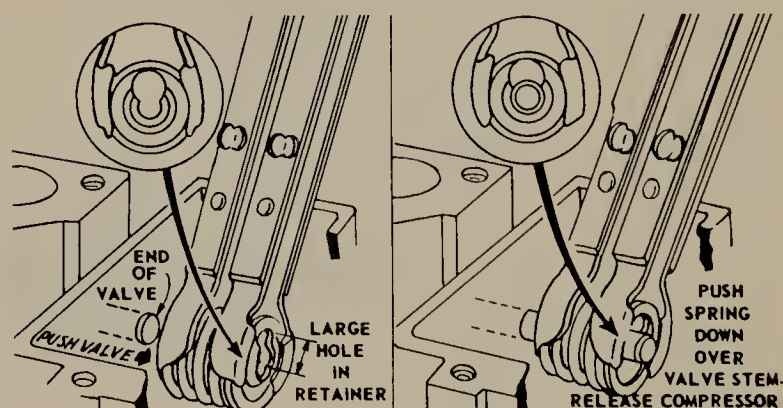

FIGURE 16.73 Compressing valve spring in preparation for valve installation. (Briggs and Stratton Corporation.)
16.20 Installing Valves. Be sure to check the springs carefully, as already noted, before installing the valves. If the spring is held in place by a pin or a split collar, put the spring with the retainer in the spring compressor, as shown in Fig. 16.73. Insert the compressor with spring and retainer into position in the cylinder block and then drop the valve into place. Install the retainer pin or collar and release the spring pressure. Pull out the compressor. On the one-piece retainer, move the retainer around when dropping the valve into place so the valve stem enters the larger part of the opening, allowing the stem